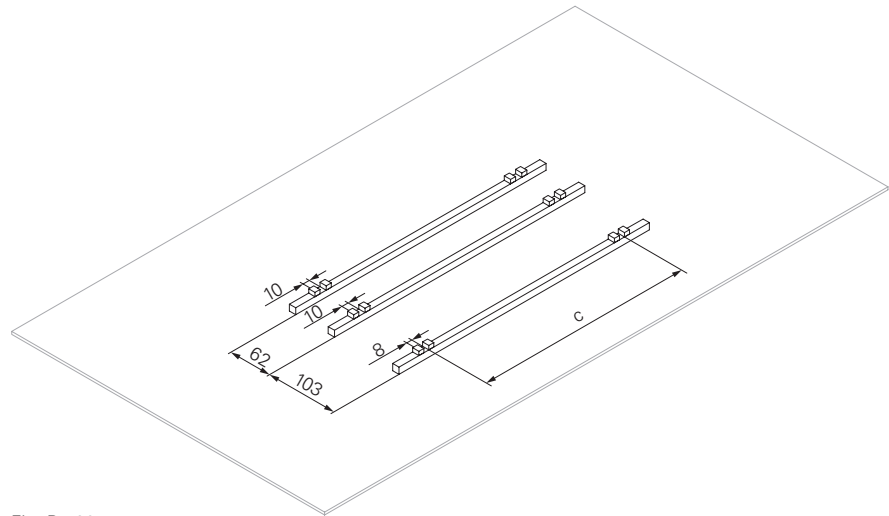

Fig. B4.03
- Prepare three squared timbers with a sling as an assembly aid. The dimension c corresponds to the bracket spacing. Lay out the squared timbers at the specified distances on the assembly area and align them parallel to each other. (Fig. B4.03)